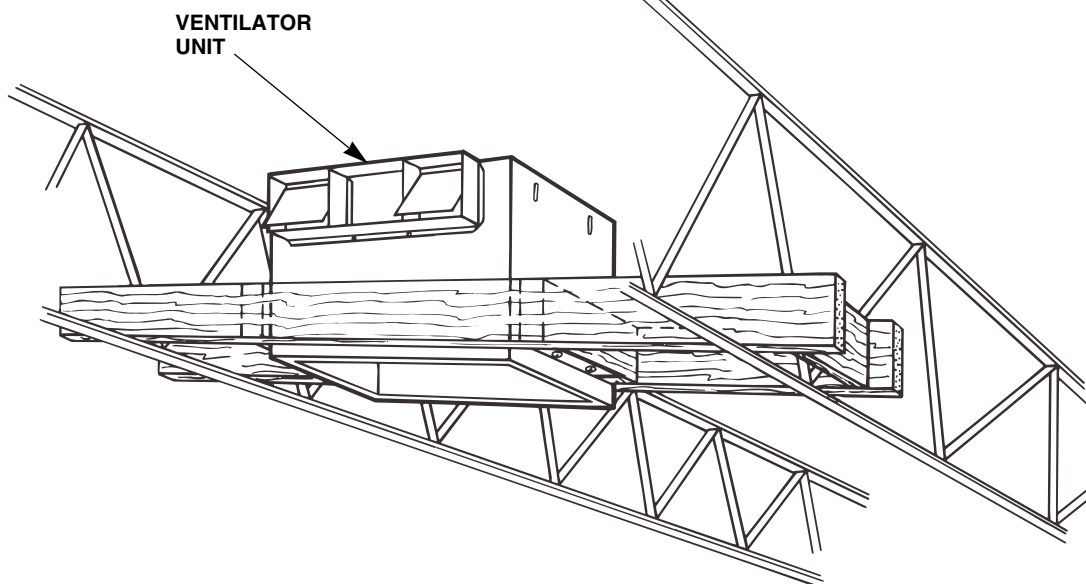

FIGURE 4
1. Refer to Figure 4. Provide a solid mounting frame to assure the lowest possible sound levels.